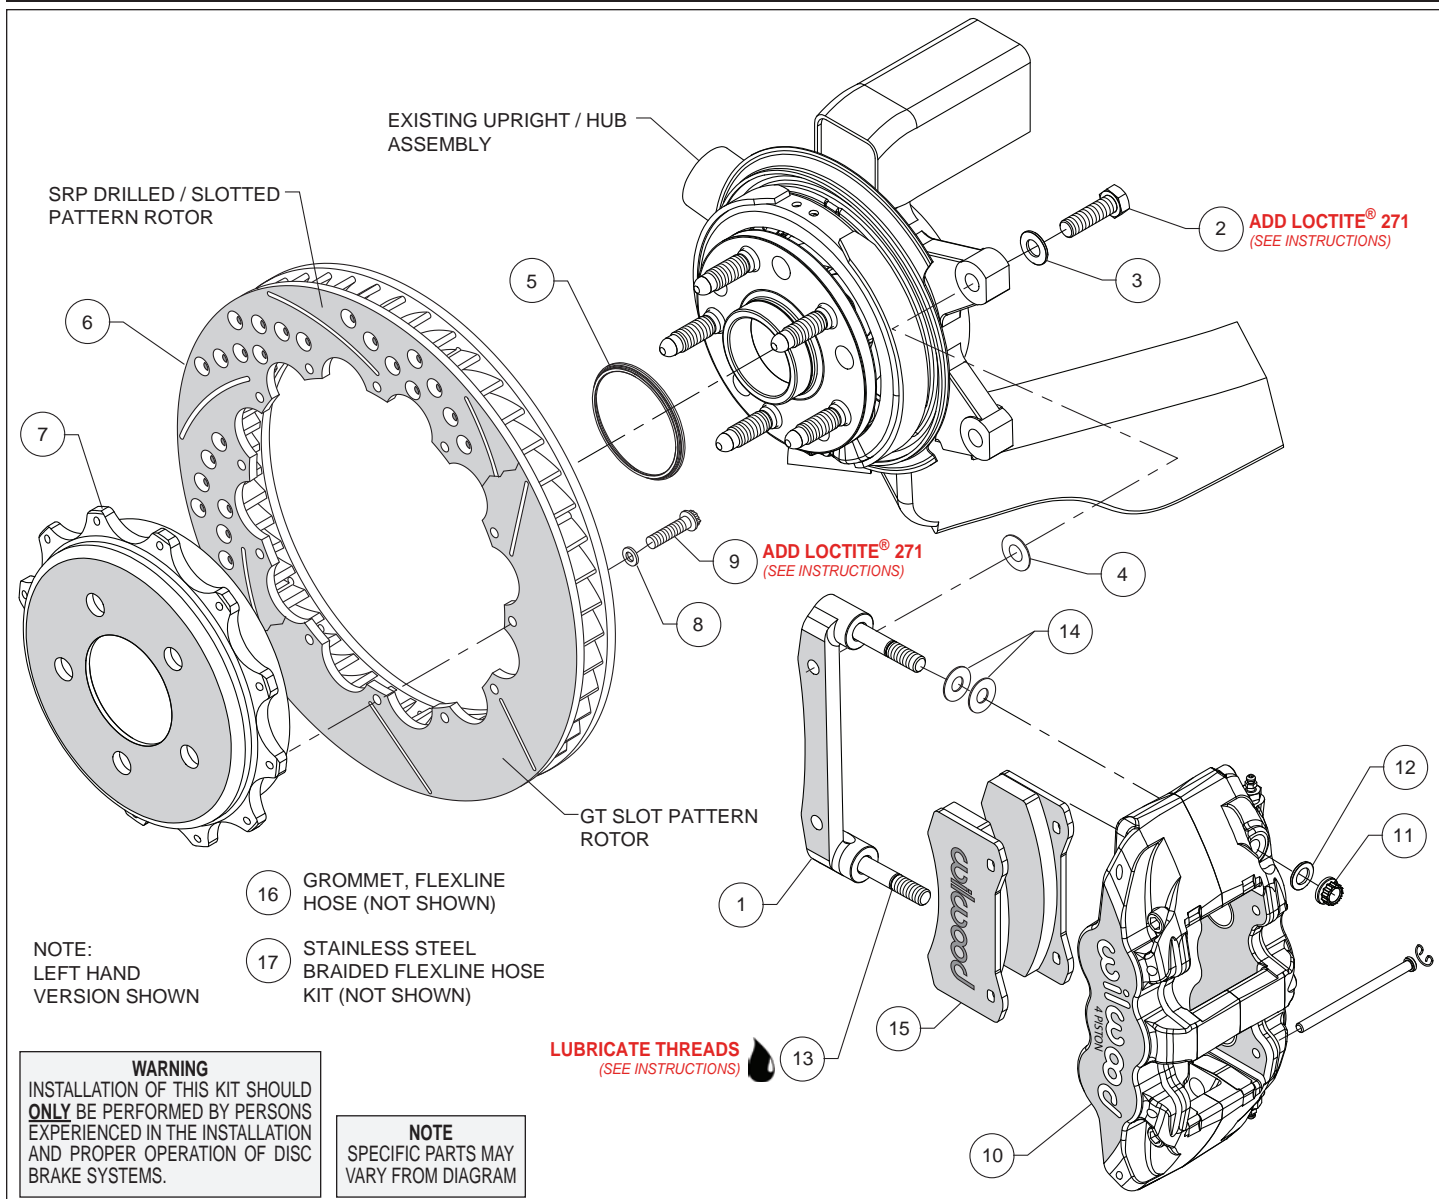
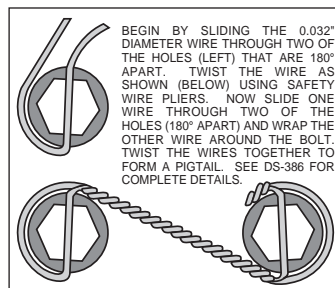

Figure 1. Typical Installation Configuration
Figure 4. Safety Wire Diagram
Assembly Instructions (numbers in parenthesis refer to the parts list and Figure 1 on the preceding pages):
- The caliper mount bracket (1) should initially be installed with clean, dry threads on the mounting bolts. Orient the bracket as shown in Figure 1, and Photo 1, and install using washers (3) and bolts (2). Initially place one shim (4) on each bolt between the bracket and upright, Figure 1. Temporarily tighten the mounting bolts. **NOTE:** The bracket must fit squarely against the mount bosses on the upright. Inspect for interference from casting irregularities, machining ridges, burrs, etc. Later, after the caliper alignment has been checked, the mount bolts will be secured using red *Loctite*[®] 271.
- Orient the rotor (6) and the hat (7) as shown in Figure 1 and Photo 2. Attach rotor to hat using bolts (9) and washers (8). Using an alternating sequence, apply red *Loctite*[®] 271 to the threads, and torque to 140 **in-lbs**. For an added measure of security, the bolts may be safety wired using standard 0.032 inch diameter stainless steel safety wire as shown in Figure 4. Please refer to Wilwood's data sheet DS-386 (available at www.wilwood.com/Pdf/DataSheets/ds386.pdf) for complete safety wire installation instructions.
- Slide the rotor registration adapter (5) onto the axle register on the axle hub with the smaller O.D. facing outward, Photo 3. Slide the hat/rotor assembly onto the axle hub. **NOTE:** The hat must fit flush against the axle hub flange or excessive rotor run out may result. Install three lug nuts (finger tight) to keep the hat/rotor assembly in place while continuing with the installation, Photo 4.
- NOTE:** This kit contains distinct right and left hand calipers. The calipers must be mounted with the bleed screws pointing upward. Lubricate the caliper mounting studs (13) with lightweight oil. Initially place two .030" thick shims (14) on each stud as shown in Figure 1 and Photo 5. Mount the caliper (10) onto the bracket (1) using lock nuts (11) and washers (12), Figure 1. Temporarily tighten the lock nuts and view the rotor through the top opening of the caliper. The rotor should be centered in the caliper, Photo 6. If not, adjust by adding or subtracting shims (4) between the bracket and the upright. Always use the same amount of shims on each of the two mounting bolts. Once the
- Remove the two pad retaining pins from the caliper (10) by carefully popping out the pin retaining clips and sliding out the pins. Insert the brake pads (15) into the caliper from the bottom, Figure 1 and Photo 7. With the friction material facing the rotor, secure the brake pads in place with the pad retaining pins and clips, Photo 8. Reinstall the caliper onto the caliper mounting bracket and temporarily tighten the lock nuts. Check that the top of the brake pad is flush with the outside diameter of the rotor, Photo 9. If not, adjust by adding or subtracting shims (14) between the caliper and the bracket. After the caliper pad height is set, torque the caliper lock nuts (11) to 47 ft-lb.